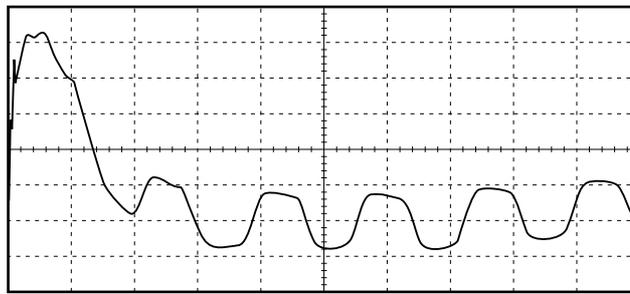

Figure 30. FM detector.
- 5 With the test point switch on the selector box set to **TP11** and RXEN switch set to **pulse** check that the signal is as in figure 30. Amplitude 75 to 125 mVp-p.